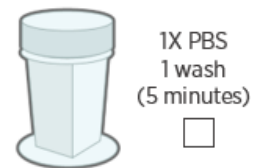

Figure 22: Wash in 1X PBS for 5 minutes
9. After nuclear stain incubation, **remove slides one at a time** from staining tray, gently tap slide on a clean Kimwipe to remove excess buffer, and transfer slide to 1X PBS (Figure 22).